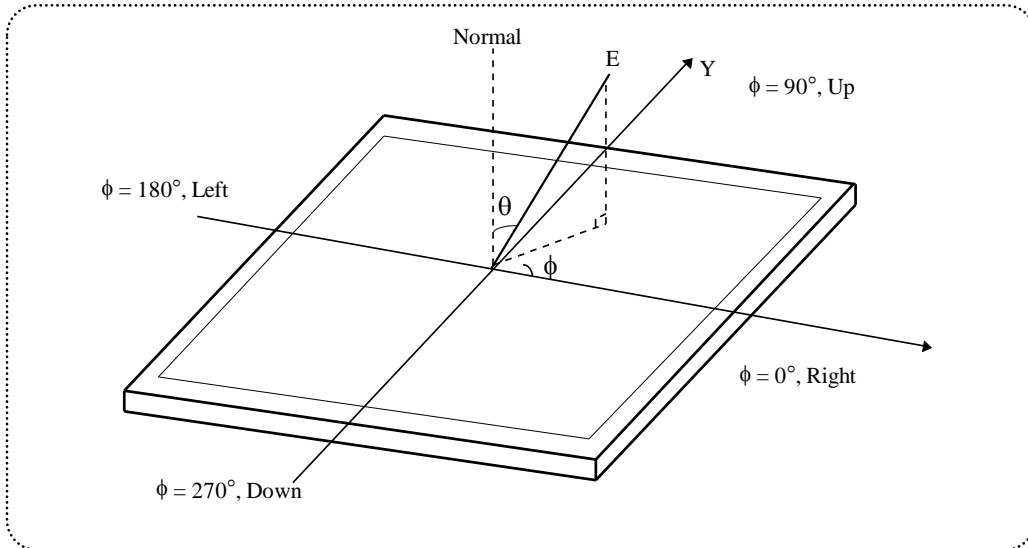

FIG. 8 Viewing angle
6. **Viewing angle** is the angle at which the contrast ratio is greater than 10. The angles are determined for the horizontal or x axis and the vertical or y axis with respect to the z axis which is normal to the LCD surface. For more information see Figure 8 .